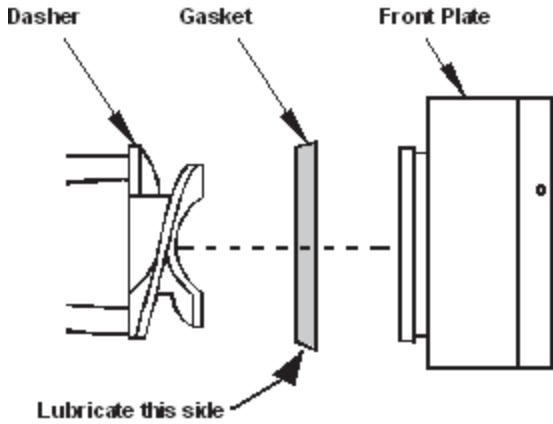

Fig. 21
- d. Install the blue gaskets by slipping them into the grooves in the front plate as shown in Fig. 21. Install so that the thicker edge of the gasket is next to the rear of the front plate. Then lubricate the outside tapered edge of the gaskets.